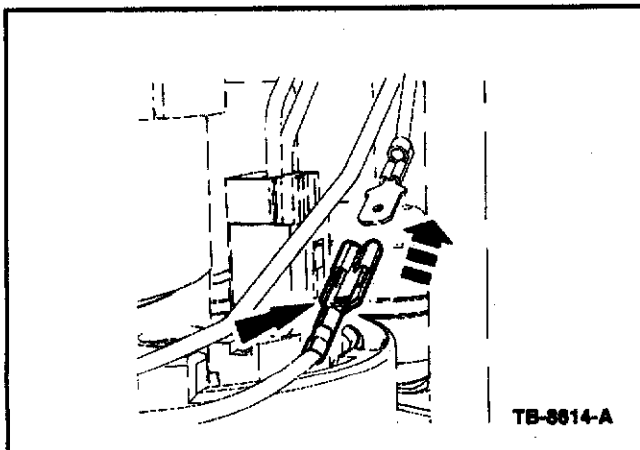

Figure 5 - Article 06-17-10
9. Re-attach the signal wire (yellow) on the harness to the signal wire (yellow) on the replacement fuel level sensor assembly per WSM, Section 310-01 (Figure 5).